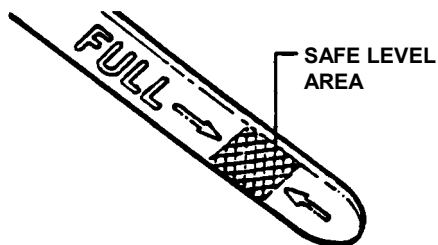

FIGURE 2.1
**2.1.3.** Check engine oil and add oil as needed to bring level up to the FULL mark. Refer to engine owner's manual for oil specifications. See Figure 2.1.